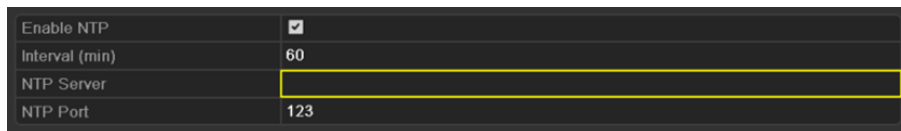

Figure 11. 13 NTP Settings Interface
2. Select the **NTP** tab to enter the NTP Settings interface, as shown in Figure 11. 13.